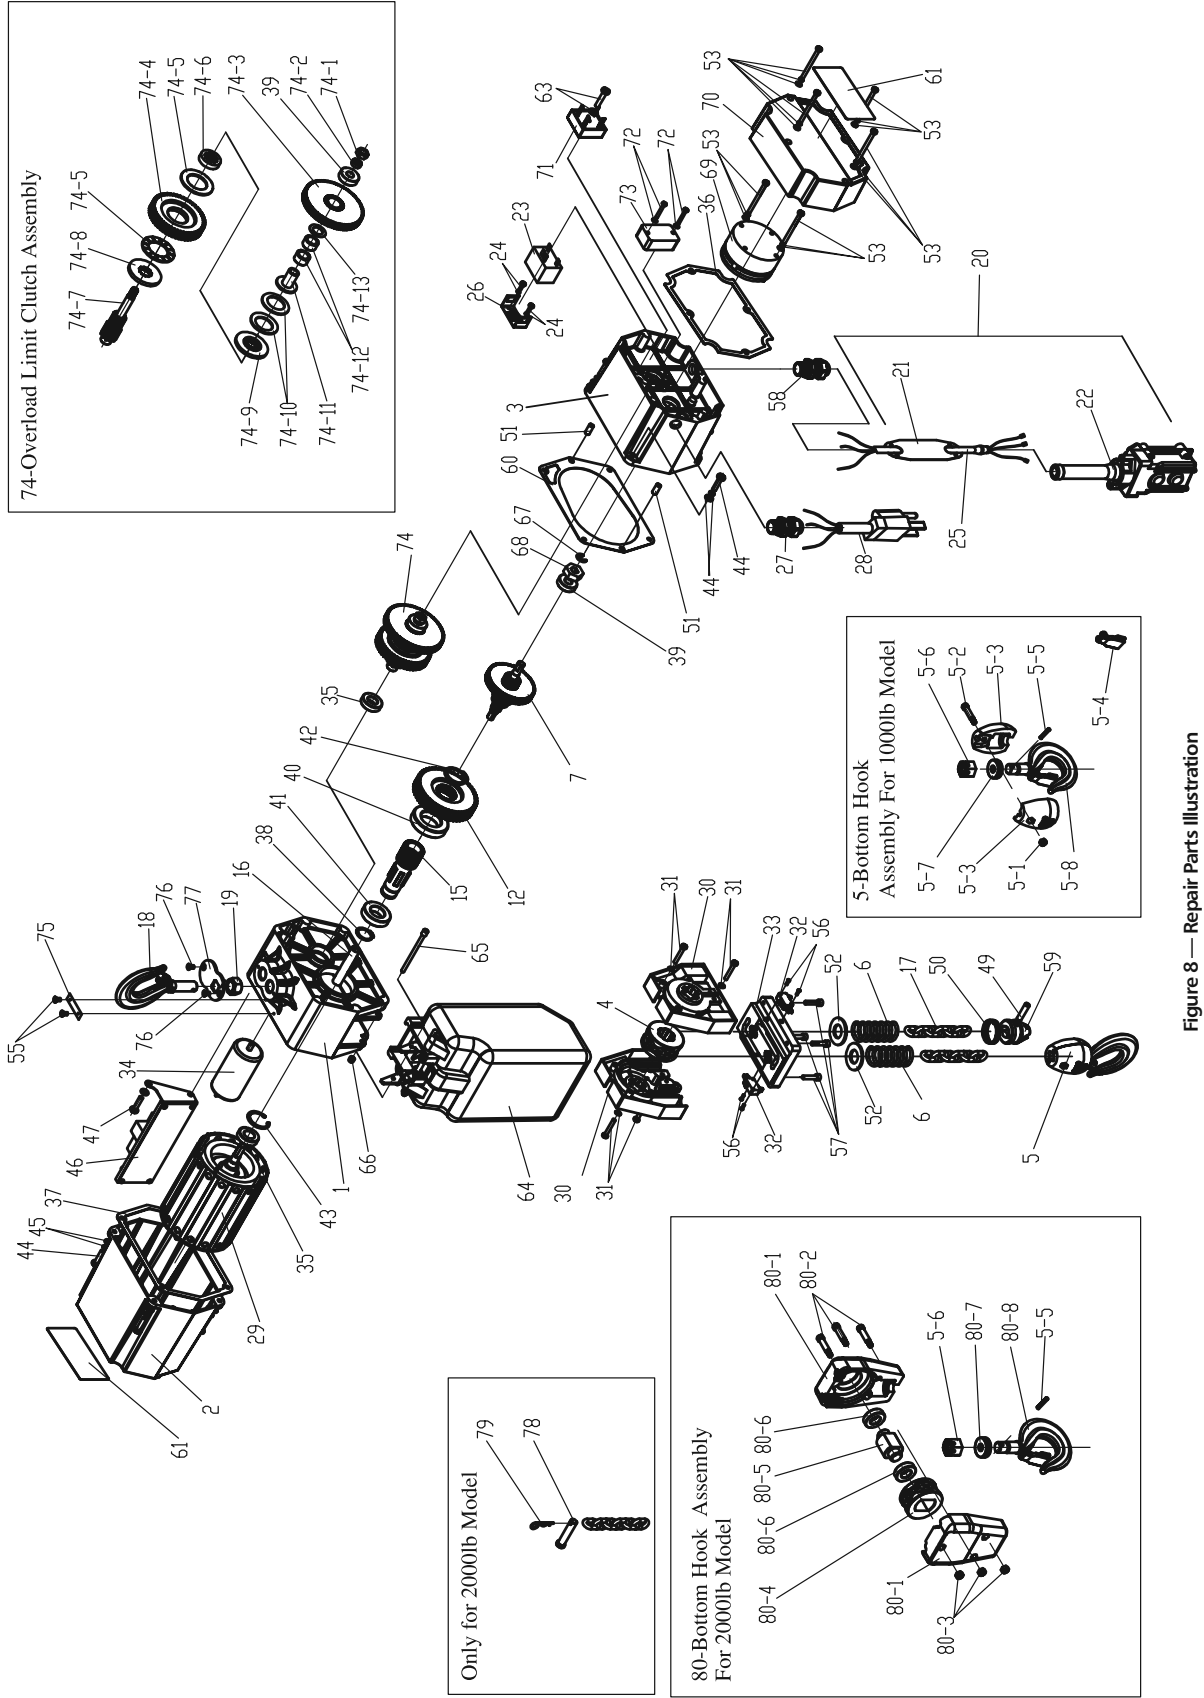

Figure 8 — Repair Parts Illustration
2. Apply a small amount of grease to the bore of the idler sheave. (Fig. 8, Ref. No. 4) in the bottom block.
2. Remove brake cover (Fig. 8, Ref. No. 70).
When the brake is not operating properly, replace the entire brake assembly (Fig. 8, Ref. No. 69).
The overload limit safety clutch has been set to within 1.3 to 1.8 times the rated load of the hoist. Generally, the overload limit safety clutch will not require adjustment. But if the hoist ever fails to lift the rated load while the motor is turning, the overload limit safety clutch must be re-adjusted. Proceed as follows. (Fig 8. Ref. No.74)
3. Disconnect the power source, and remove brake cover and clutch cover. (Fig 8 Ref. No 70 and No 73)